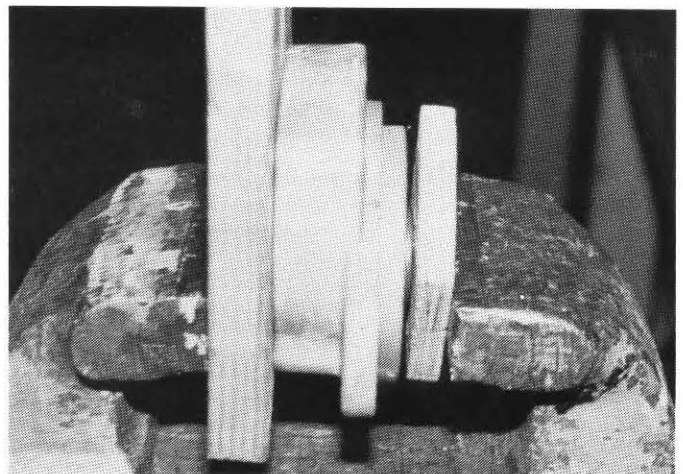

FIG. 6
11. Center the seal over the seal bore with the bottom of its metal casing facing out. Place a clean block of wood between the vise jaw and the seal. Tighten the vise slowly until the block rests against the flange plate. Make sure the seal moves straight into the bore. (Fig. 6)